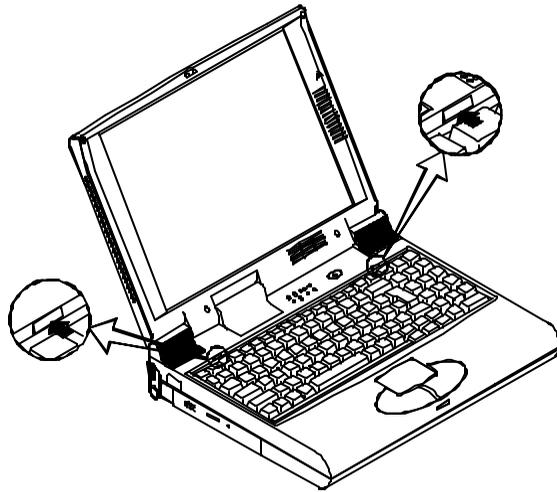

Figure 2-4
2. Press the two keyboard latches so that the keyboard can be elevated from its normal position (Figure 2-4).